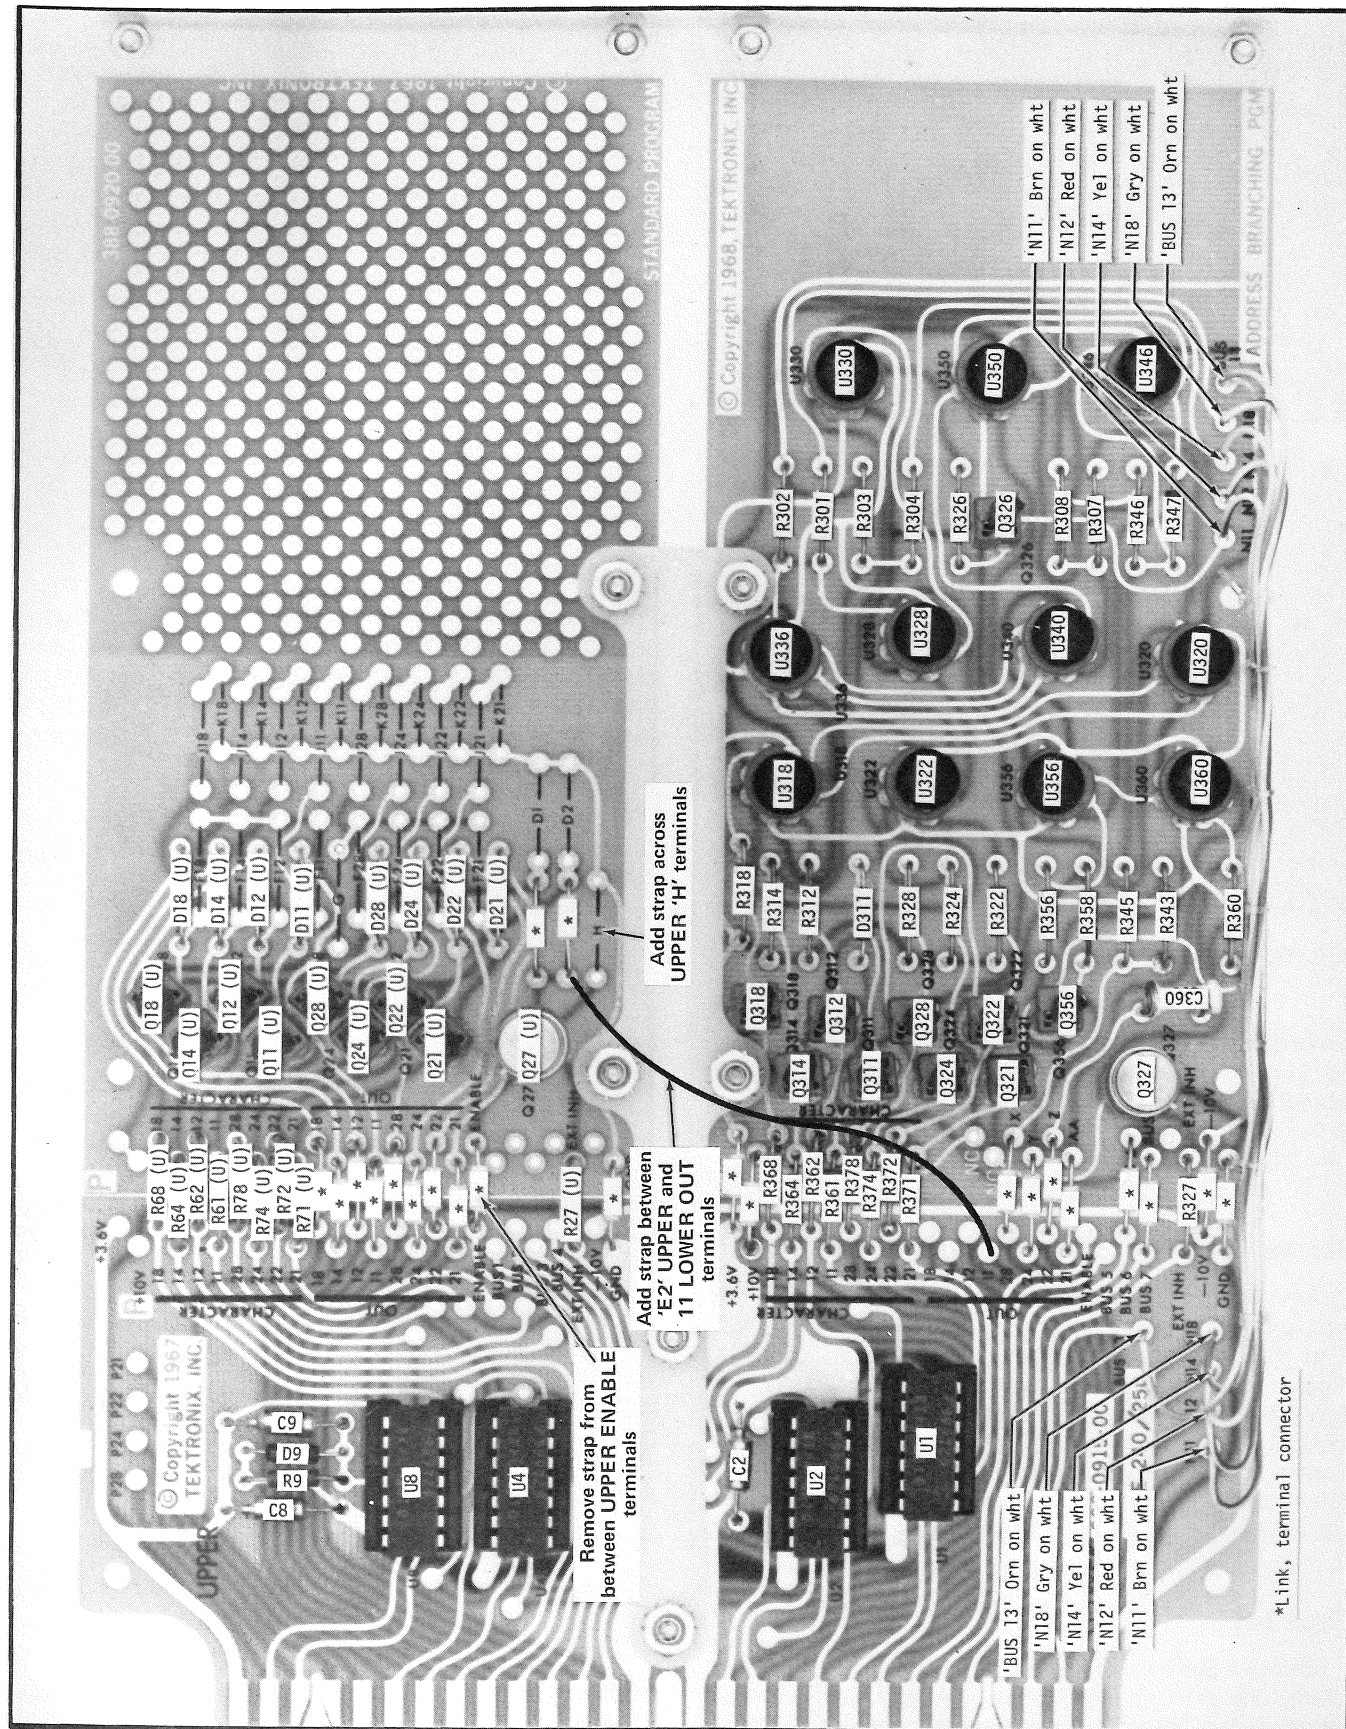

Fig. 2-20. Modification of Type 240 P12 Program Assembly Model 1.
1. Solder a strap (#24 insulated wire) between 'E2' UPPER and 11 LOWER OUT on the P12 Program Assembly Model 1 (see Fig. 2-20).
2. Solder a strap (#24 insulated wire) from the junction of J14 and F14 to the junction of E1 and D1 on the P12 Program Assembly (see Fig. 2-20). Solder another strap from the J24-F24 junction to the E2-D2 junction.
1. Solder a strap (#24 insulated wire) between 'E2' UPPER and 11 LOWER OUT on the program assembly (see Fig. 2-20).
2. Solder a strap (#24 insulated wire) from the junction of J14 and F14 to the junction of E1 and D1 on the program assembly (see Fig. 2-20). Solder another strap from the J24-F24 junction to the E2-D2 junction.